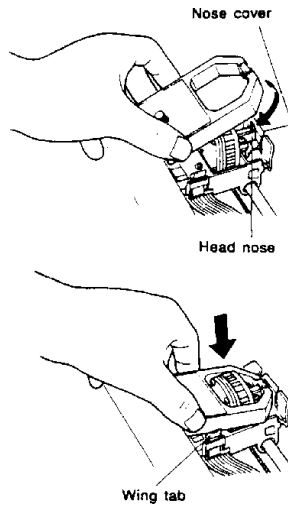

FIGURE 8 - REPLACING THE RIBBON
Position the ribbon cassette over the print head and lower it in place inserting its rear end first as shown (Figure 8). Visually insure that the ribbon slips between the ribbon cover and the nose of the print head. Gently, but firmly, press down on the cassette until the two wing tabs snap into place. If the "snap" is not felt, rotate the knob slightly and press again.
3.3.5 To remove the cassette, gently spread the wing tabs and lift up the cassette. See Figure 8.